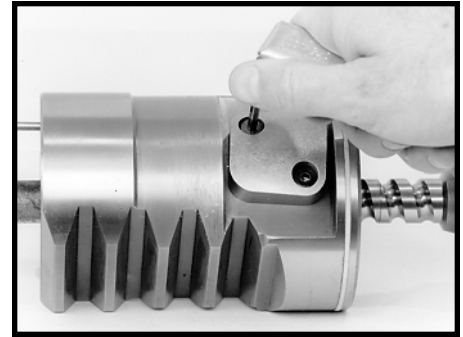
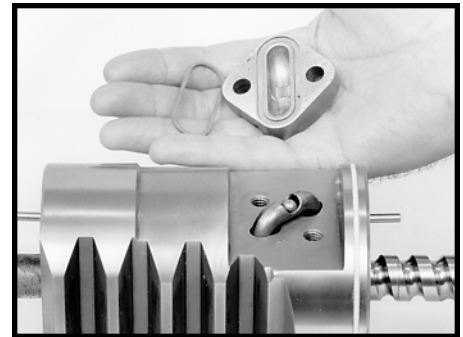

Figure 70
Figure 71
- 34. For a rack piston with the ball return guide cap (48) instead of the clip, remove the two special screws (49) which will require either a 5/32 inch Allen wrench or a T-30 Torx wrench. SEE FIGURE 70. Remove the ball return guide cap and the ball return cap seal (47). SEE FIGURE 71. Discard screws and cap seal.